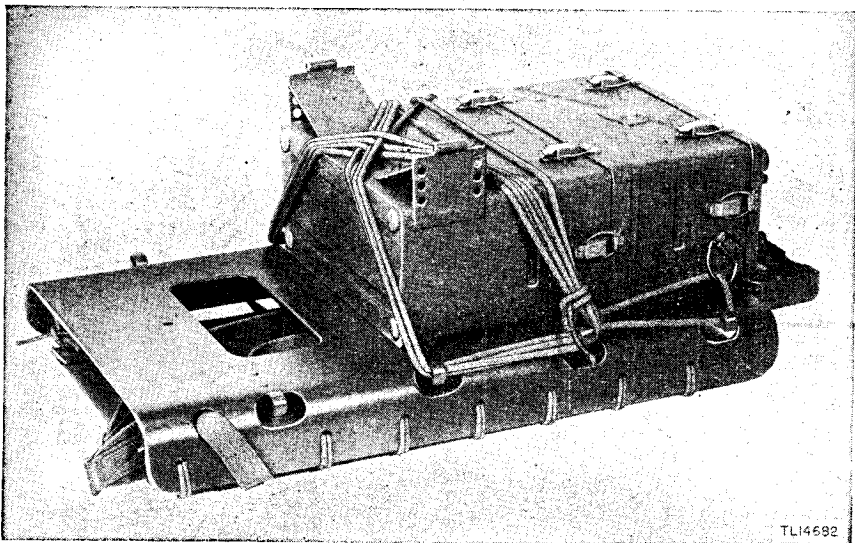

Figure 40. Radio Set SCR-300-A, showing method of fastening to standard QM packboard using rope.
(3) If the cargo attachment and quick release straps are not available, fasten the set to the packboard using rope, as shown in figure 40.